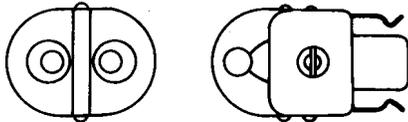

Fig. 15—471A Jack
**2.15 471A:** This polarized jack (Fig. 15) is used with the 346A plug.